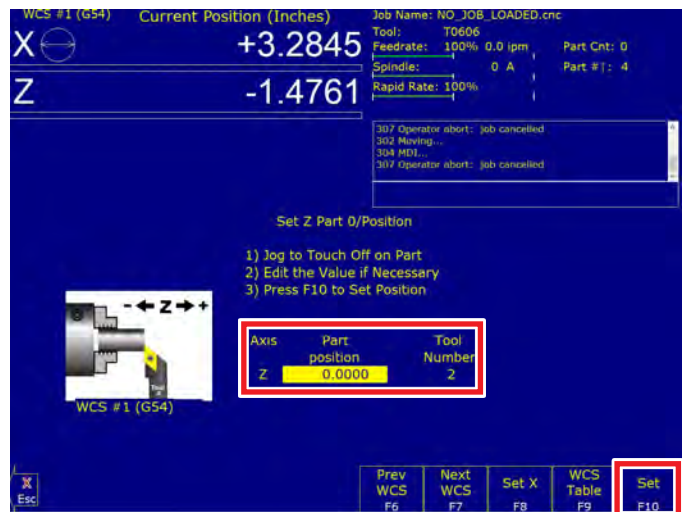

FIGURE 19
- Set the “Part Position” to (0.0000). Set the tool # to tool 2 (Ref Tool). Then click on Set F10 (see Figure 19).